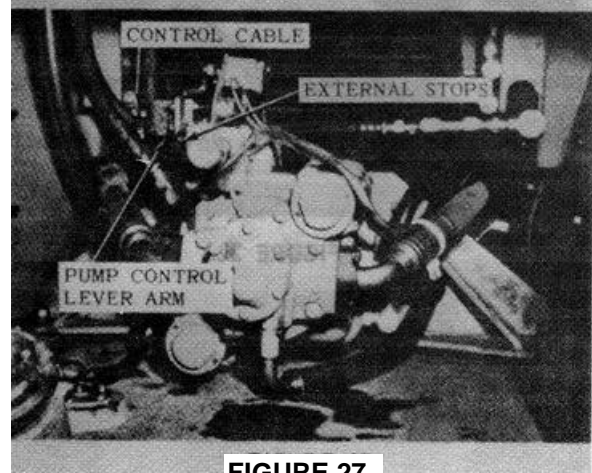
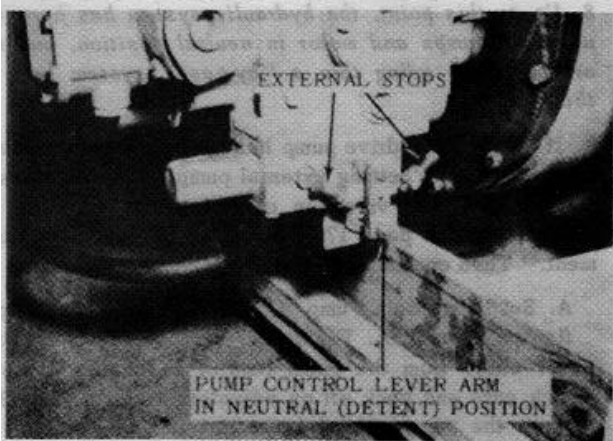

FIGURE 27
FIGURE 28
2. Place the "forward-reverse travel lever", item 14, page 9, and the "vibration control lever", item 13, page 9, in neutral (detent position).
9. If the traction drive pump has been replaced, proceed with step 9A - "Setting external pump lever arm stops," figure 27. If the vibration control pump has been replaced, refer to page 17, "Vibration Frequency Adjustment." Then continue with step 10.
A. Set External Pump Control Lever Arm Stops, figures 28 and 29 . Figure 27. Remove the pump control cable from the pump control lever arm. Loosen lock nuts and back off on adjusting screws. Manually move the pump control lever arm in one direction to its maximum stroke. This will "bottom" the lever arm internally inside the pump. Now adjust the setscrew